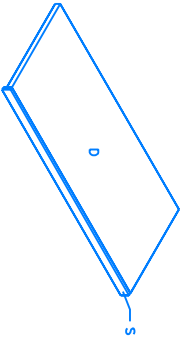

FIGURE 6
- 5) Assemble shelves as shown (Fig. 6) by gluing and nailing pieces S to pieces D and E with 1" finishing nails. Glue and nail on pieces Q and R with 1" finishing nails. If using hardwood, pre-drill pilot holes in shelves to prevent splitting. Wipe off excess glue.